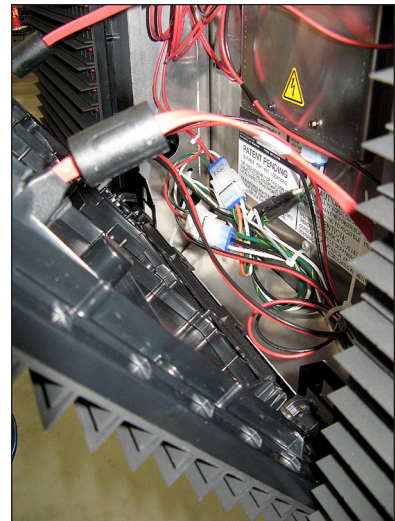

Figure 15: Reinstall Modules
7. Reconnect SATA and power cables to the module, as shown in **Figure 15**.
8. Insert the tabs at the bottom of the module in the corresponding slots on the display face sheet, as shown in **Figure 15**. Tip the top of the module back into place and latch it by turning the hex head wrench a quarter-turn clockwise. Make sure not to pinch any cables.